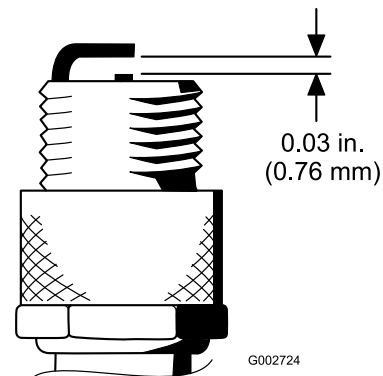

Figure 49
4. Set the air gap between the center and side of the electrodes at 0.76 mm (0.030 inch) (Figure 49).